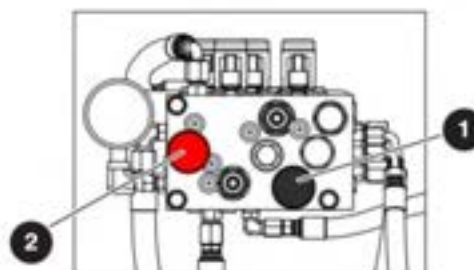

Figure 16 Brake manifold
4. Push the plunger (item ① - *Figure 16*) of the brake auto-reset valve on the brake manifold.
5. Continuously push and release the **knob** (item ② - *Figure 16*) of the hand pump until firm resistance is felt or until the pressure gauge (optional equipment) shows 300 - 430 psi (2068 - 2965 kPa). The brake is now released to permit wheel rolling.